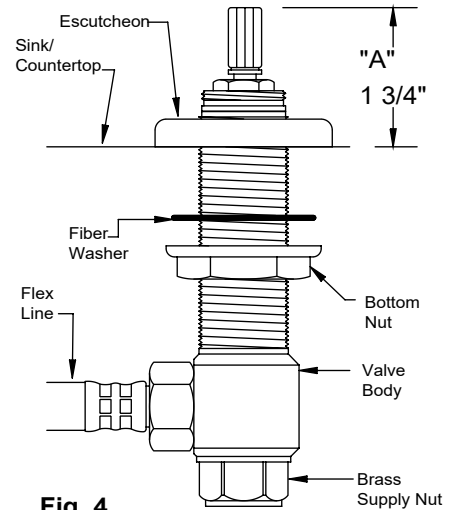

Fig. 4
- Insert valve through hole from below and install escutcheon and adjust to proper height (See Fig. 4).